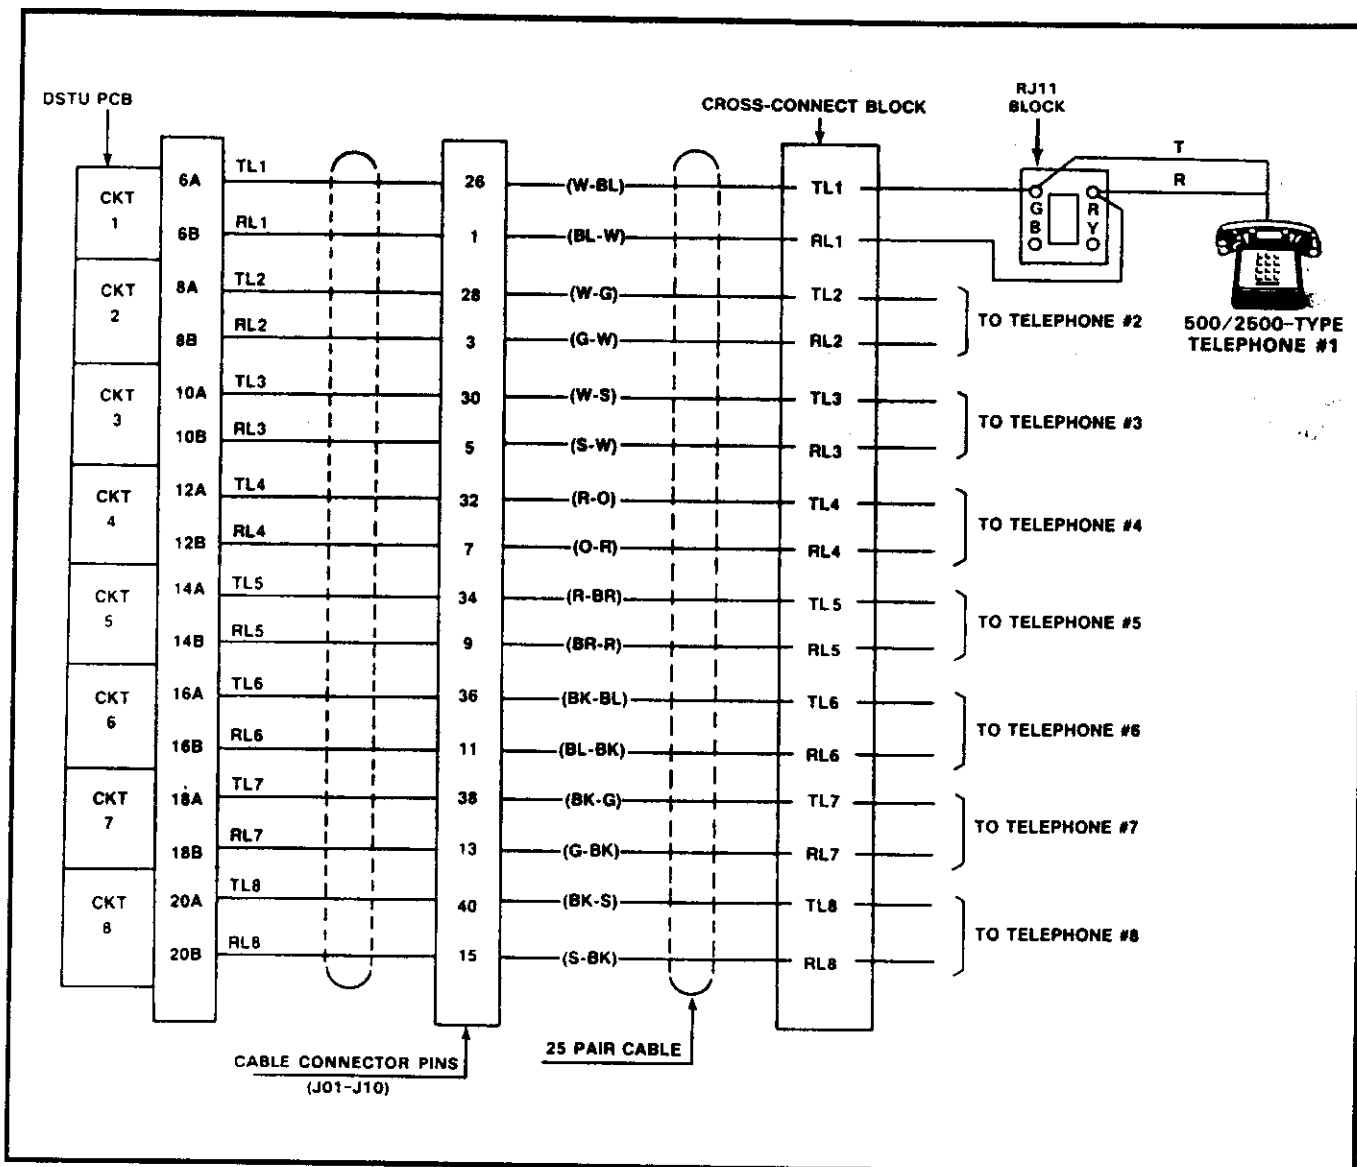

FIGURE 30—STANDARD TELEPHONE CONNECTION
08.13 Standard telephone connection details are shown in Figure 30.